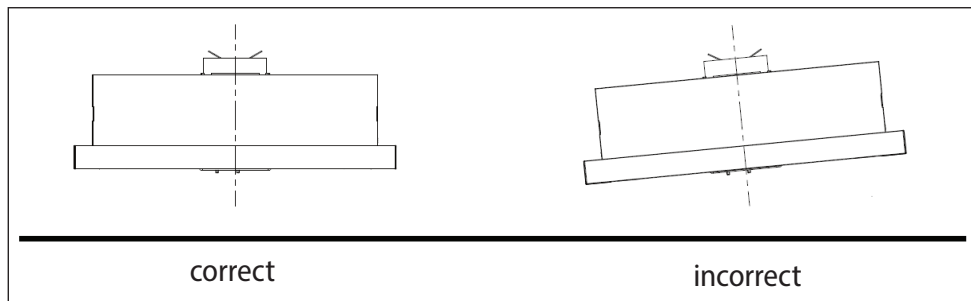

Fig. 6
5. Make sure that the hood is in a horizontal position to prevent the accumulation of grease (grease) on one side (Fig. 6).